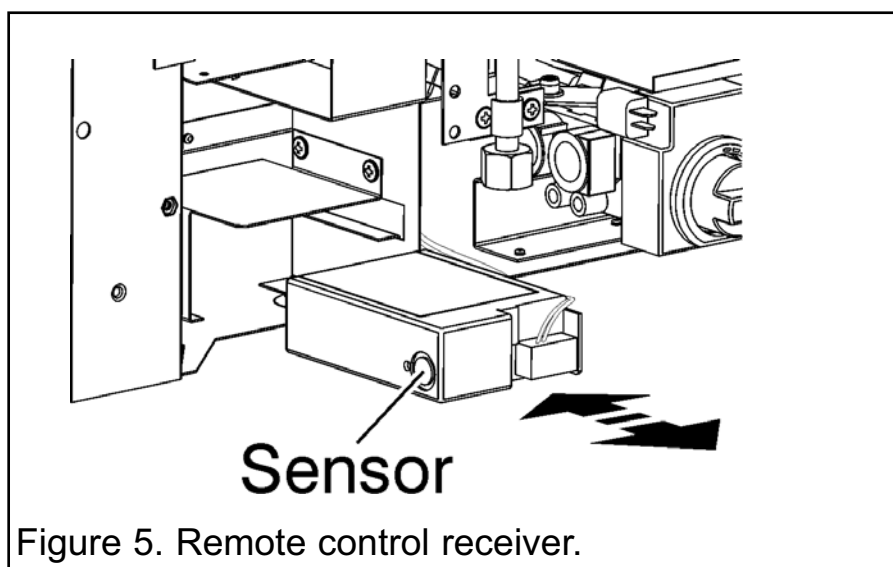

Figure 5. Remote control receiver.
2. Slide the remote control receiver out of its retention housing (See figure 5).